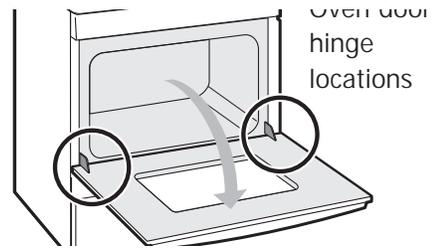

Figure 30: Door hinge location
1. Open oven door completely, horizontal with floor (See Figure 30).
3. Fully open the oven door, horizontal with floor (See Figure 30).